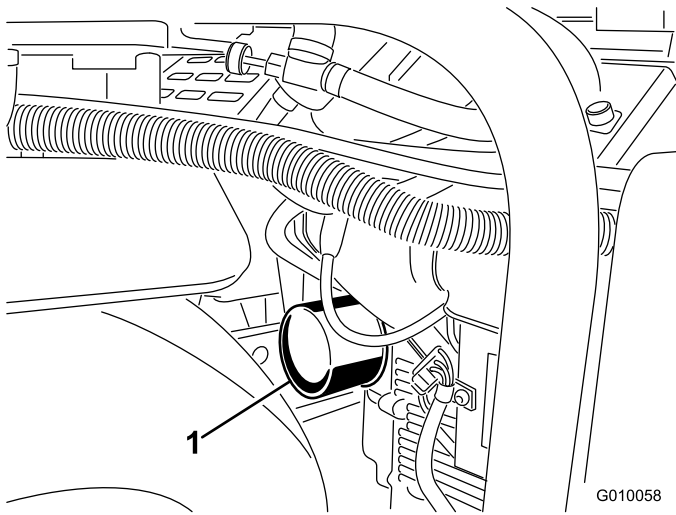
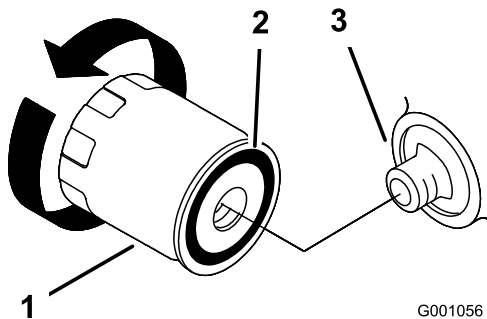

Figure 48
Figure 49
6. Place a shallow pan or rag under the filter to catch oil (Figure 48).
7. Remove the old filter (Figure 48 and Figure 49) and wipe the surface of the filter adapter gasket.